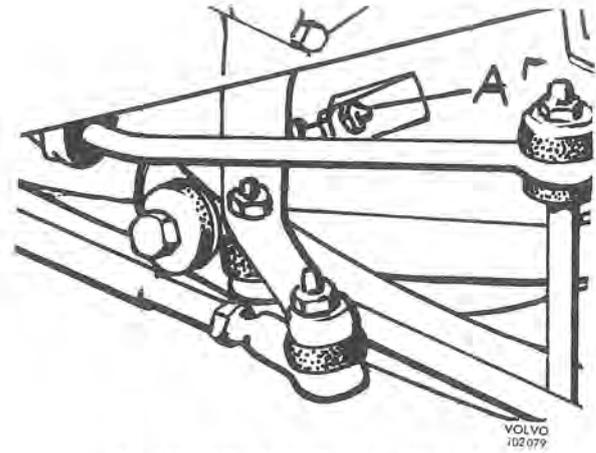

Fig. 6-11. Adjusting screw, max. wheel lock
Wheel turning is limited by stop bolts, at the pitman arm (Fig. 6-11) and at the relay arm.
1. Turn the left wheel for a left-hand turn as far as it goes. Check that the lock angle of the wheels is  $45^\circ$ . If it is not, then adjust to this value with the stop bolt (A, Fig. 6-11) at the pitman arm.